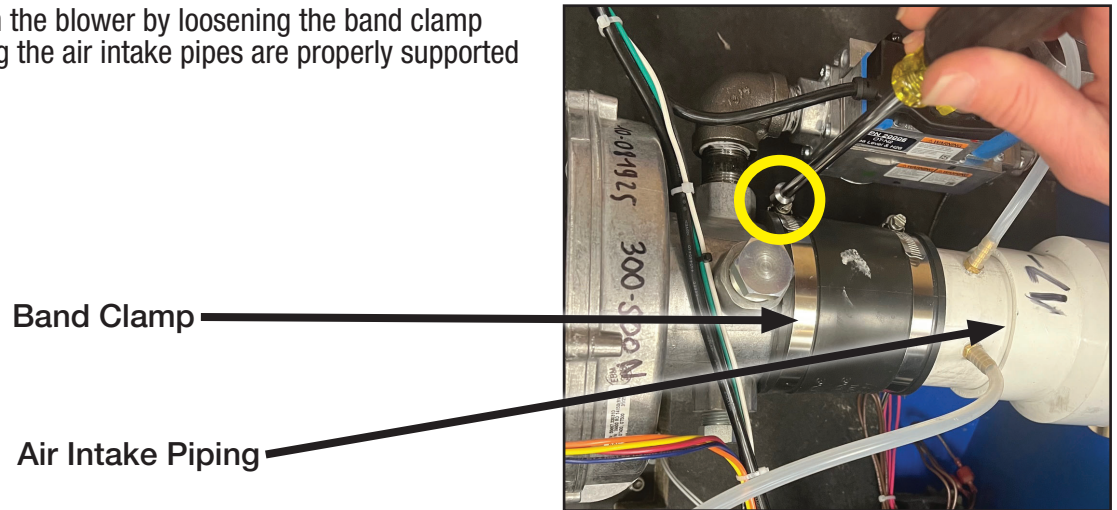

Fig. 41
4. Disconnect the air intake from the blower by loosening the band clamp closest to the blower, ensuring the air intake pipes are properly supported (Fig. 41).